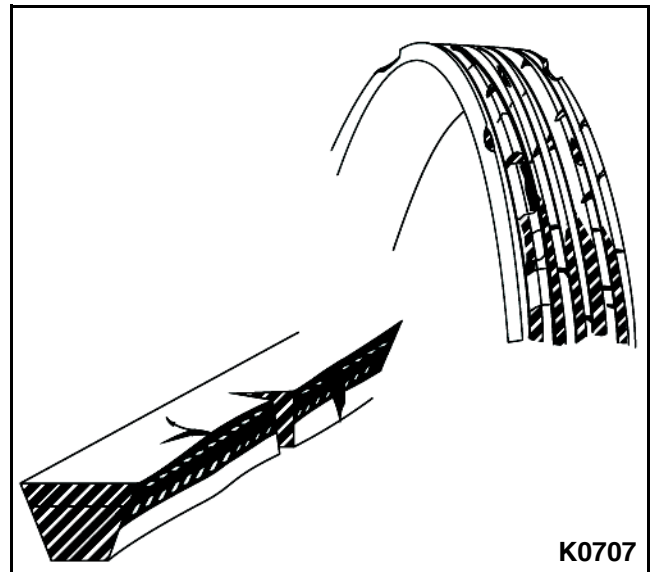

Figure 5-15
3. Inspect the drive belt. Look for signs of cracking, separation, cuts, or other damage. See Figure 5-15.